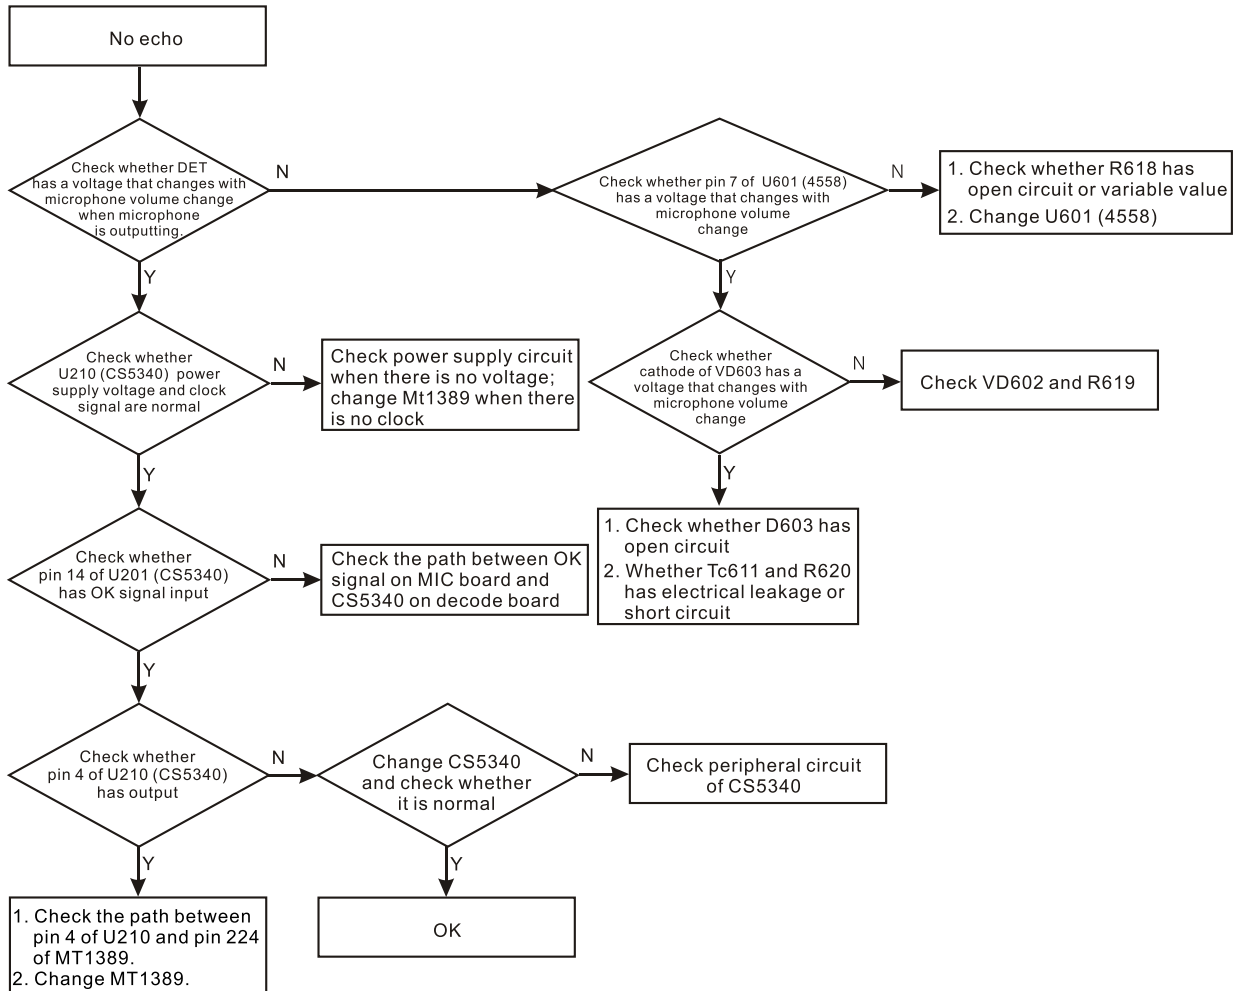

Figure 3.5.10.1 Troubleshooting flow chart for no echo in microphone
3.5.10 Troubleshooting process for no echo of microphone is shown as the following figure 3.5.10.1: